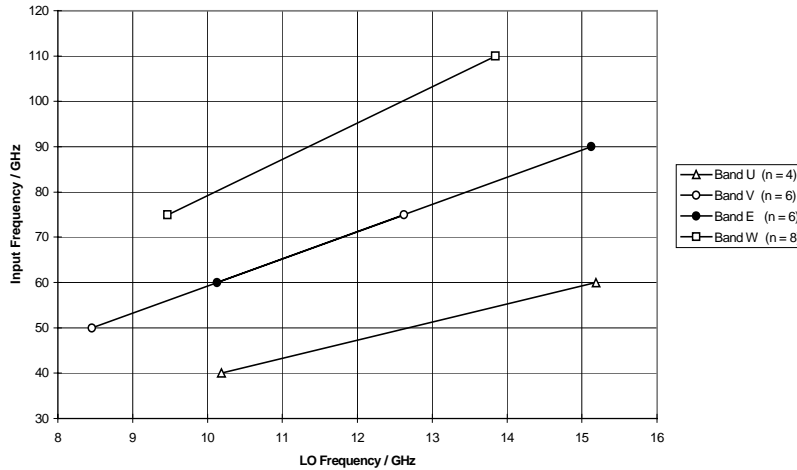

Fig. 1-2: Dependence of LO frequency on the frequency of the input signal to be converted ($f_{IF} = 741.4 \text{ MHz}$)
The signal to be measured is fed to the input (RF) of the mixer (Standard waveguide flange). The signal of the first local oscillator (LO) of the spectrum analyzer is taken to the mixer via the LO/IF SMA connector (see Table 1-1 for frequency range and level of the LO signal). Nonlinearities produce harmonics of the LO signal which are used to convert the input signal to a lower intermediate frequency (IF). The relationship between LO frequency and input signal frequency is shown in Fig. 1-2.